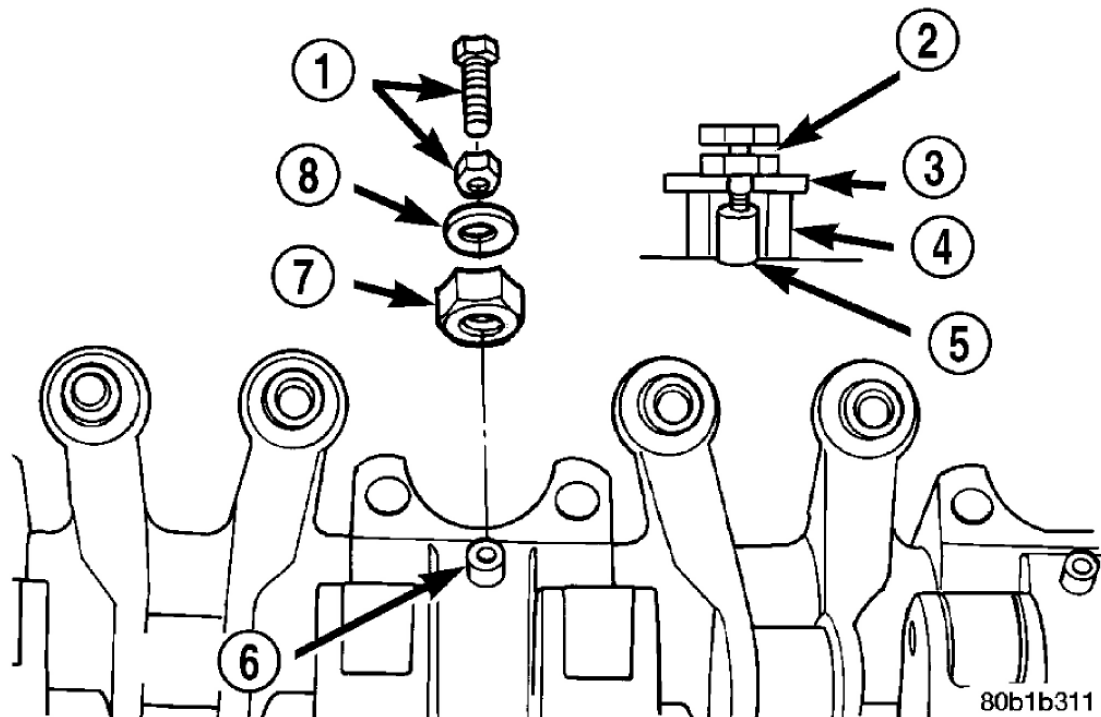

Fig. 150: Rocker Arms and Shaft - Disassembly
2. Remove dowel pin using a 4 mm screw, nut, spacer, and washer installed into the pin. See **Fig. 150**. Thread the screw into the pin, then loosen the nut on the screw. This will pull the dowel out of the shaft support. Do not reuse dowel pins. Remove the rocker arms and pedestals in order.